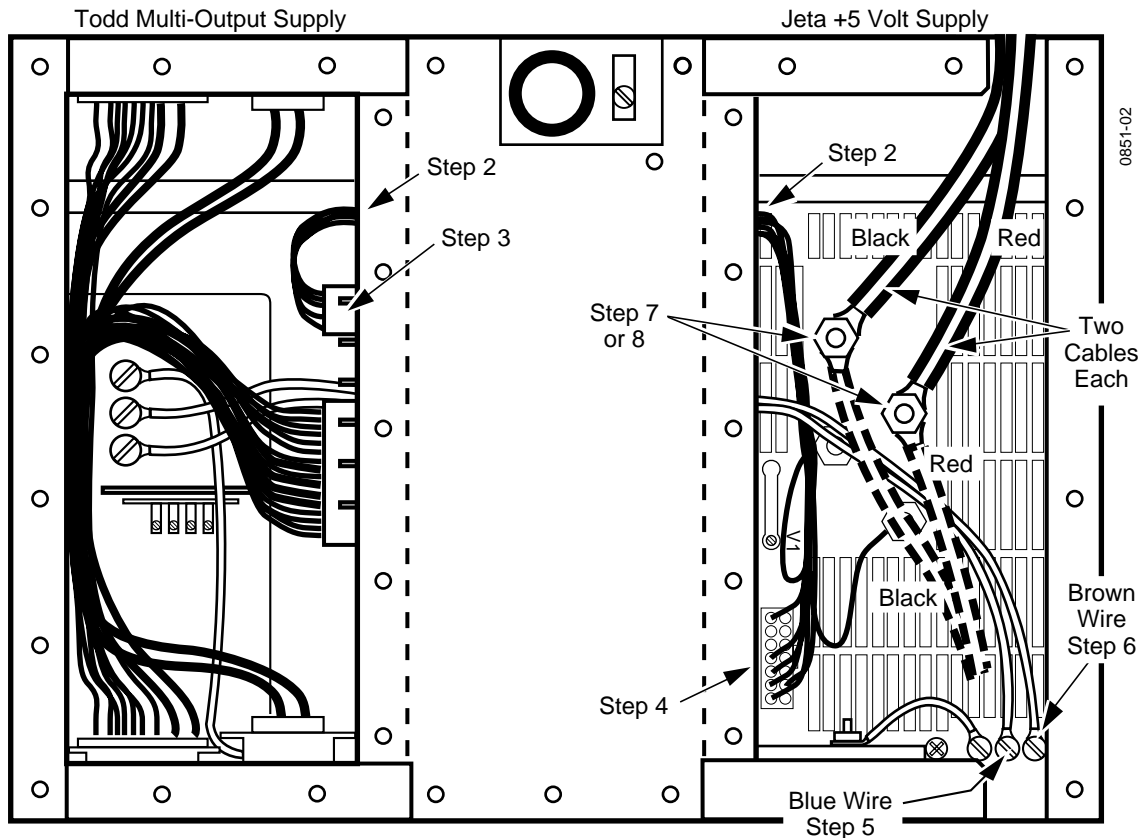

Figure A-1. Installation of Jeta +5 Volt Power Supply Assembly
2. Feed the small multi-wire cable from the new power supply through the hole at the top left of the +5 Volt supply compartment (see Figure A-1), and on through the frame to the hole into the Multi-Output supply compartment. If necessary, gain access from the front of the frame.